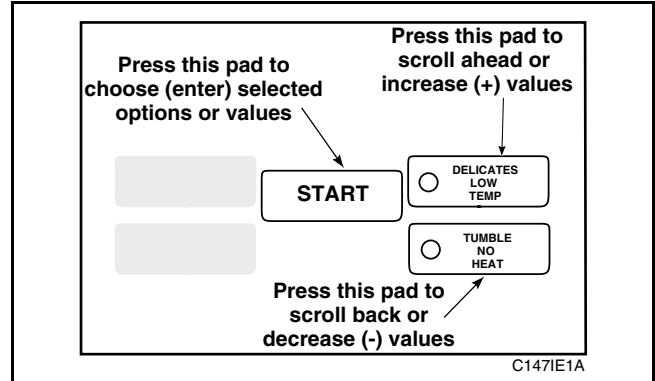

Figure 75
6. Press the LOW TEMP (+) pad or the NO HEAT (-) pad to increase or decrease the current three-digit number to the desired three-digit number selected from Chart 8, *Figure 75*.